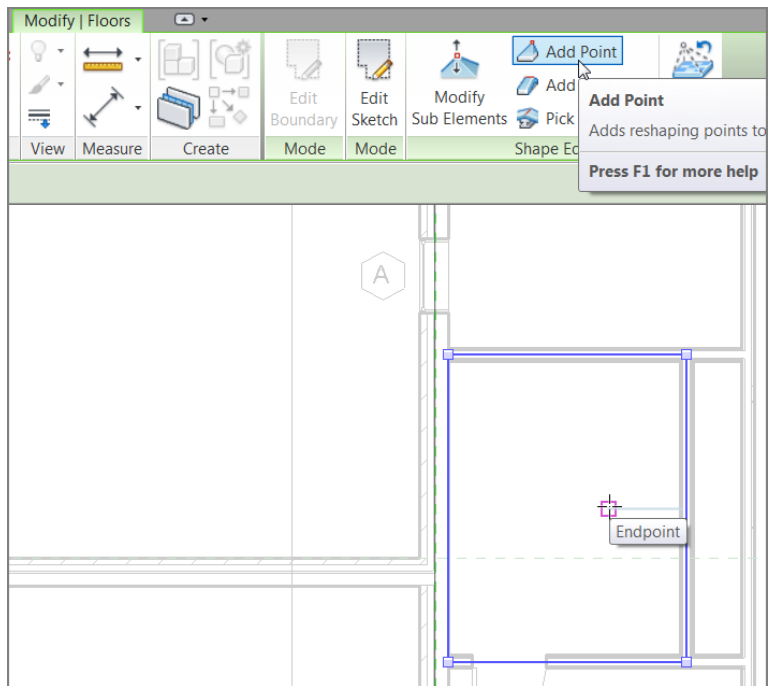

FIGURE 6.49: Picking the endpoint of the line
5. On the Modify | Floors tab, click the Add Point button, as shown in Figure 6.49.
6. Pick the endpoint of the line you just drew (see Figure 6.49).